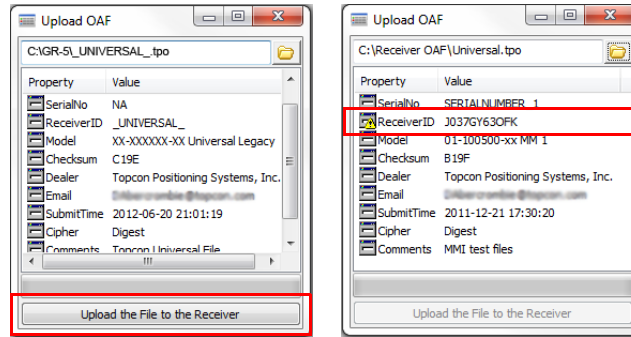
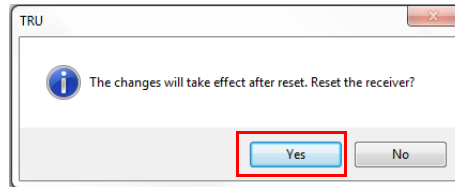

Figure 24: OAF Compatibility Check
Figure 25: Reset the Receiver
- Press **Upload the File to the Receiver** (Figure 24) to start loading the file. If an OAF file is uploaded to the receiver, TRU will offer to reset the receiver to put new authorization options into operation (Figure 25).